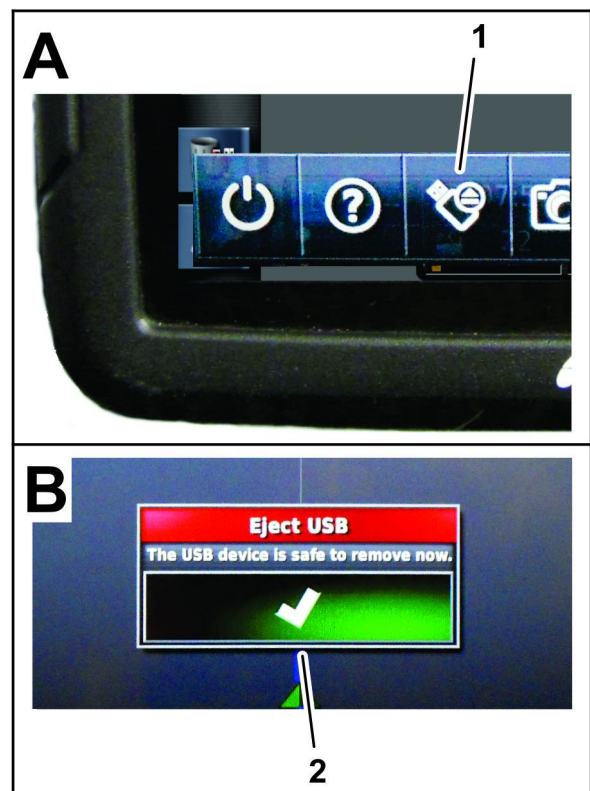

Figure 33
8. Swipe the screen to access the floating-menu bar (Figure 33).
9. Press the EJECT USB icon (Figure 33).
10. At the eject USB dialog box, press the confirm icon, and remove the USB storage device from the control console (Figure 33).